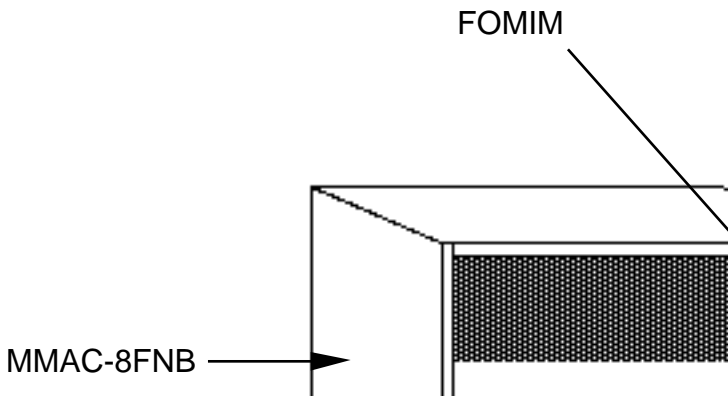

Figure 2-1 Installing the FOMIM
3. Slide the FOMIM (Figure 2-1) into the card cage of the MMAC hub. Be sure that the card is properly aligned in the top and bottom slots of the card cage.